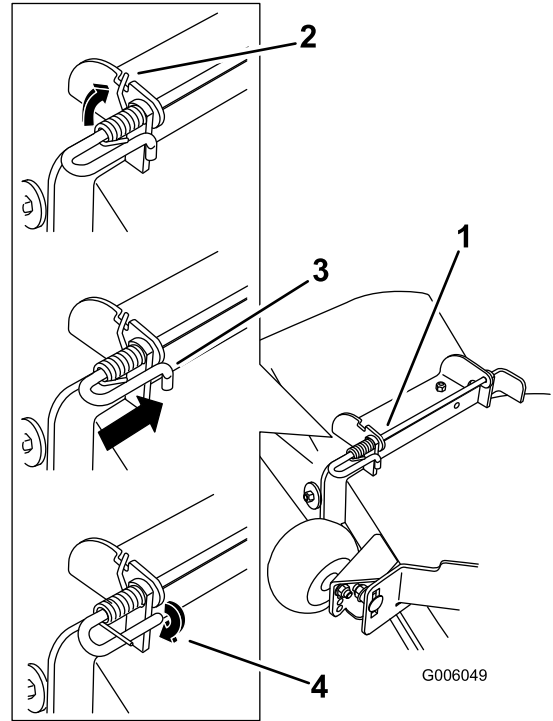

Figure 51
4. Lift the long end of the spring and place it into the notch on the deflector assembly bracket (Figure 51).
5. Secure the rod and spring assembly by twisting it so the short end of the rod can be placed behind the front bracket welded to the deck (Figure 51).